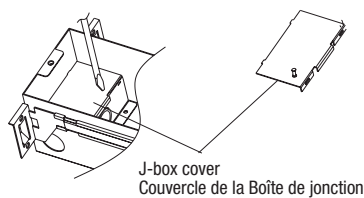

Fig. 8e
5. Pry off junction box cover by flat screwdriver, punch out appropriate hole for AC wires feed in Fig. 8e, 7f).